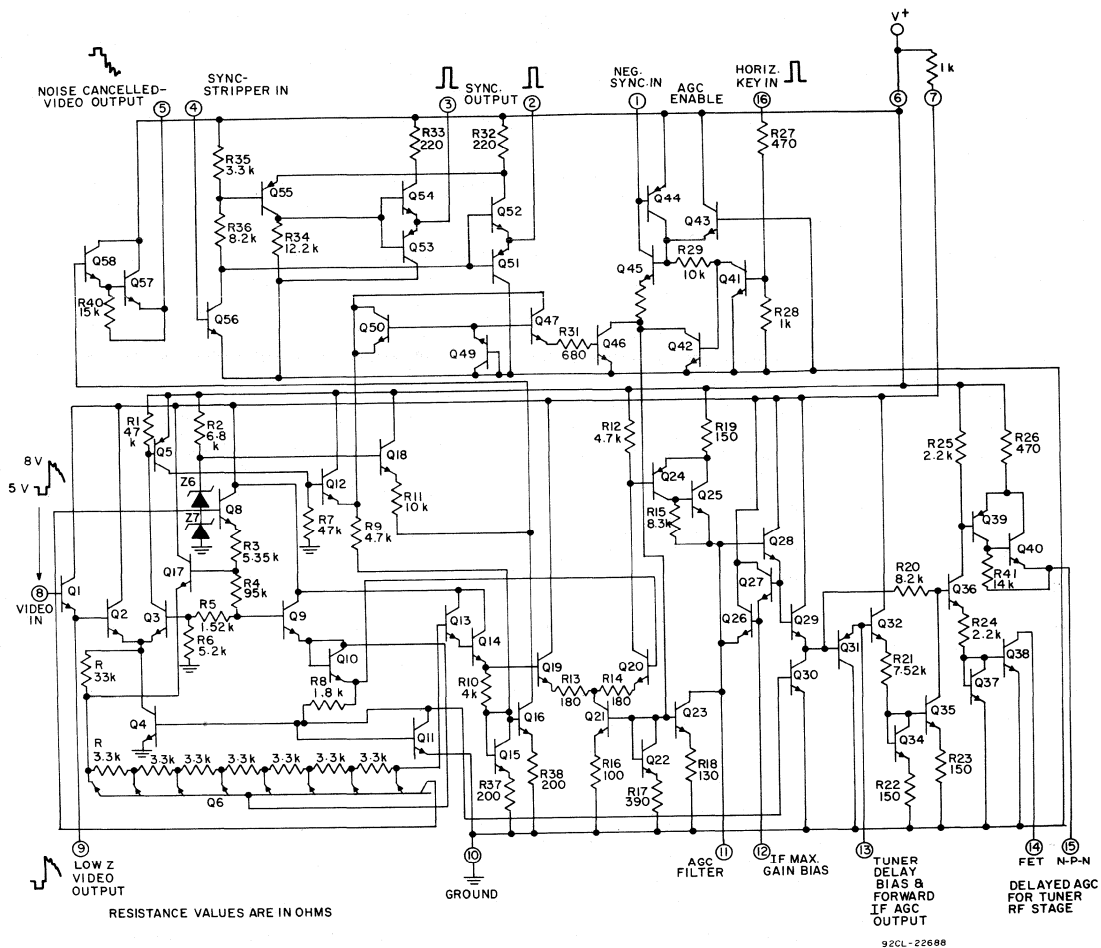

Fig. 2 - Schematic diagram of the CA3120E.
**Video Chain and Impulse Noise Inverter** - The input video signal applied at Terminal 8 is white "positive" with a required amplitude in the range of 2 to 4 volts. The DC level of the sync peaks, AGC threshold voltage ( $V_{TH}$ ) is approximately 5 volts. The level is maintained at 5 volts by the AGC loop in the circuit, comprised of the CA3120E and the TV receiver RF and IF amplifiers. A low source impedance video signal is available from the emitter of Q1 (Terminal 9 in Fig. 2). The external resistor ( $R_{X1}$  in Fig. 9) reduces the dissipation of Q1. The emitter-follower output of Q1 is direct coupled to a differential comparator stage (Q2, Q3). Unless a negative-going noise pulse is present, Q2 functions as an emitter follower and also cuts off transistors Q3, Q5, and Q12.